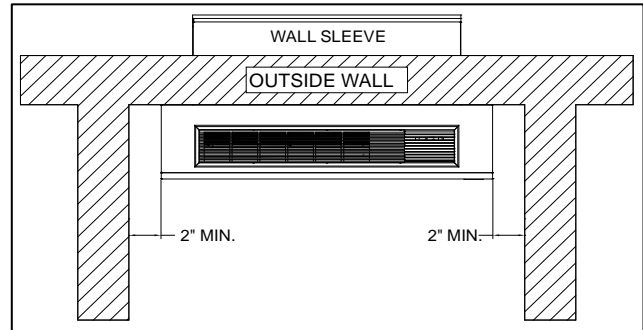

Figure 2. Installation Spacing Requirements
- G) There should be sufficient space around the unit to facilitate maintenance and repairs (see Figure 2).